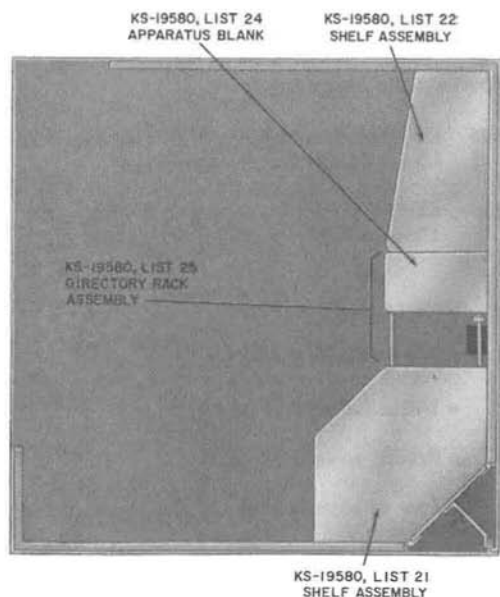

Fig. 8—Rear Wall Shelf Arrangement
- 2.21 Shelf assemblies, directory racks, and associated apparatus are listed in Table D and shown in Fig. 8 through 10.
KS-19580, List 21 Shelf Assembly (Fig. 8, 9, and 10)
KS-19580, List 22 Shelf Assembly (Fig. 8 and 10)
KS-19580, List 25 Directory Rack (Fig. 8, 9, and 10)
KS-19580, List 24 Apparatus Blank (Fig. 8 and 10)